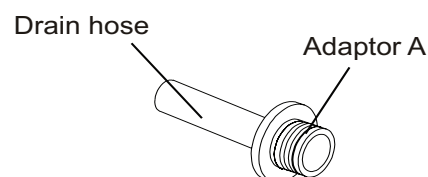

Fig.7
- Install the drain hose onto the adaptor A (See Fig. 7, placed in the bucket).